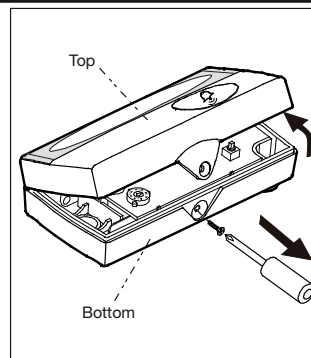

Fig. 1
1. Use a crosspoint screwdriver to remove the top. Fig. 1
2. Use a crosspoint screwdriver to remove the top of the unit. Fig. 1